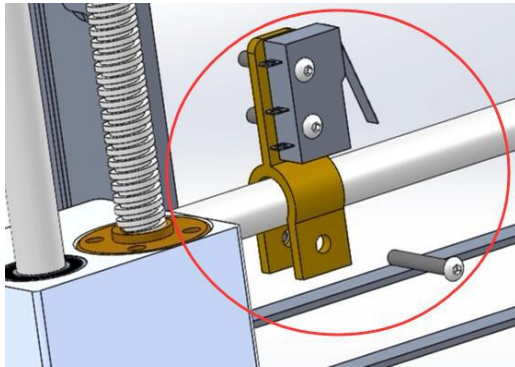

Fig. b39
- B. Get X end-stop with its support from motherboard module, and place its support on upper left rod, move to the location where stop extruder moving left when nozzle on left edge of hotbed. (Fig.b39)